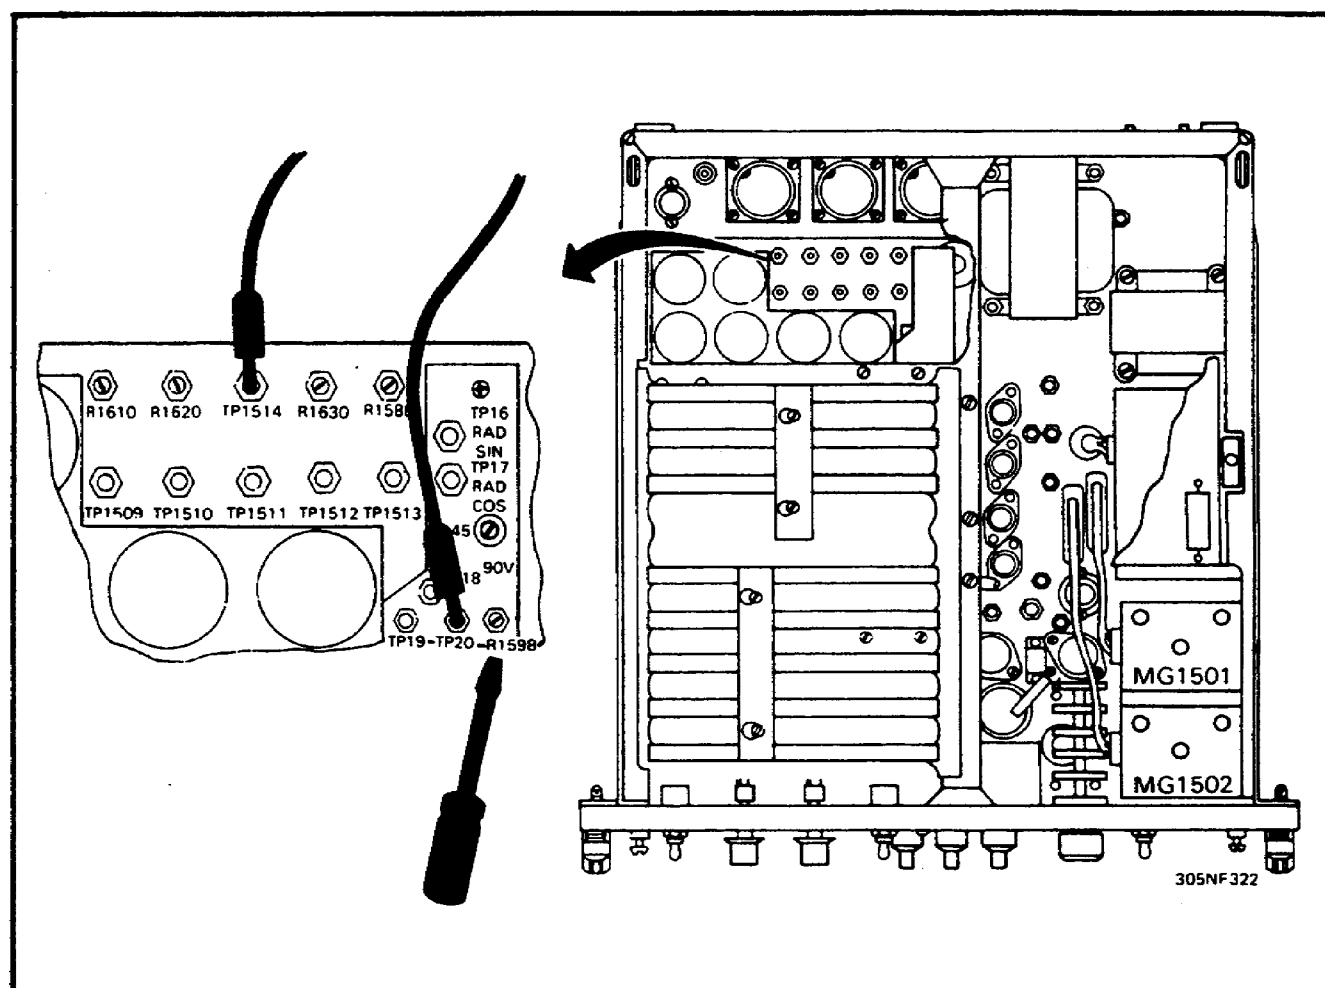

Figure 15. 90 V AC adjustment control R-1598.
h. Connect multimeter between the 90 V AC test point TP-1520 and the ground test point TP-1514. Adjust the 90 V AC adjustment control R-1598 for a meter indication of the voltage value obtained in step g. (See Figure 15.)